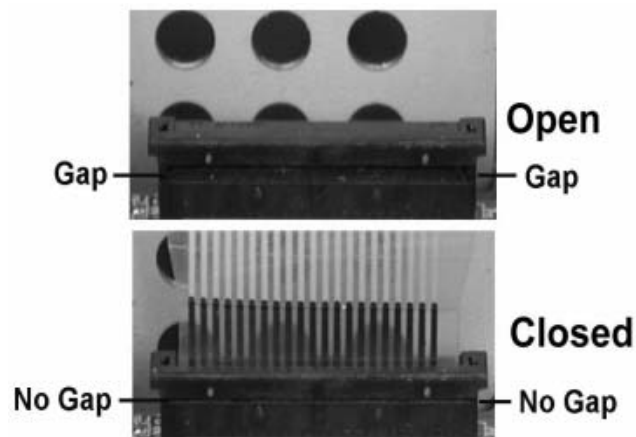

Figure 2-22: Installing the Keyboard Ribbon Cable
- Install the Keyboard ribbon cable. See Figure 2-22. Before inserting the cable, make sure two parts of the connector are open as shown in the top illustration. Insert the cable, then press down on the upper half connector to lock the cable in place.